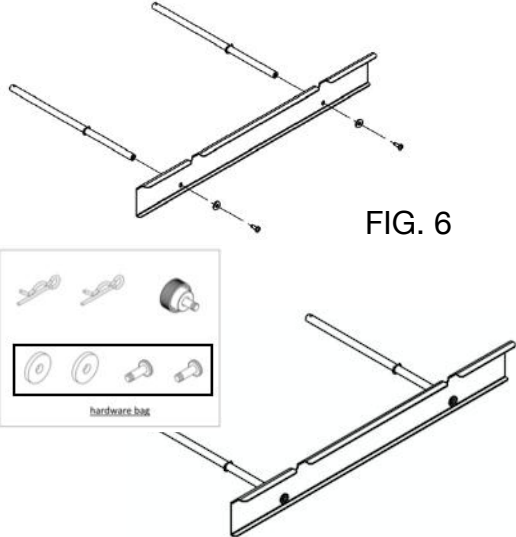

FIG. 6
STEP 1: Attach the rods with the table extension with screws and washers as shown in **FIG. 6**.